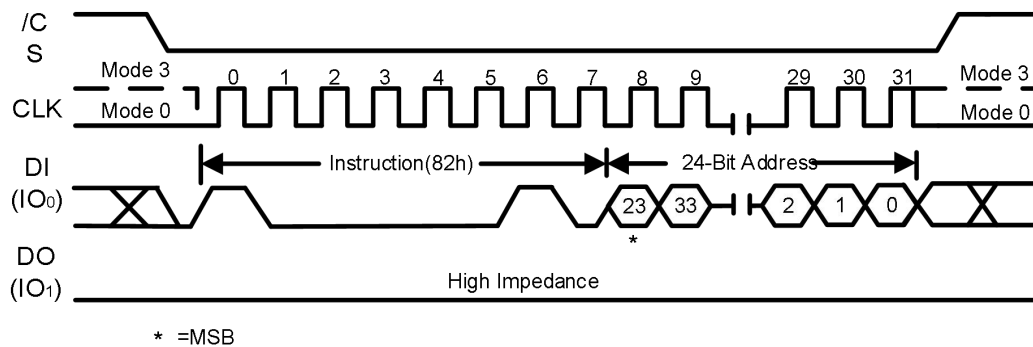

Figure15. Mini Sector Erase Sequence Diagram
The Mini Sector Erase command sequence: CS# goes low → sending Sector Erase command → 3-byte address on DI → CS# goes high. The command sequence is shown in Figure15. CS# must be driven high after the eighth bit of the last address byte has been latched in; otherwise the Mini Sector Erase (MSE) command is not executed. As soon as CS# is driven high, the self-timed Mini Sector Erase cycle (whose duration is  $t_{MSE}$ ) is initiated. While the Mini Sector Erase cycle is in progress, the Status Register may be read to check the value of the Write in Progress (BUSY) bit. The Write in Progress (BUSY) bit is 1 during the self-timed Mini Sector Erase cycle, and is 0 when it is completed. At some unspecified time before the cycle is completed, the Write Enable Latch (WEL) bit is reset. A Mini Sector Erase (MSE) command applied to a sector which is protected by the Block Protect (SEC, TB, BP2, BP1, and BP0) bit (see Table 1-6) is not executed.
The Sector Erase command sequence: CS# goes low → sending Sector Erase command → 3-byte address on DI → CS# goes high. The command sequence is shown in Figure15. CS# must be driven high after the eighth bit of the last address byte has been latched in; otherwise the Sector Erase (SE) command is not executed. As soon as CS# is driven high, the self-timed Sector Erase cycle (whose duration is Tse) is initiated. While the Sector Erase cycle is in progress, the Status Register may be read to check the value of the Write in Progress (BUSY) bit. The Write in Progress (BUSY) bit is 1 during the self-timed Sector Erase cycle, and is 0 when it is completed. At some unspecified time before the cycle is completed, the Write Enable Latch (WEL) bit is reset. A Sector Erase (SE) command applied to a sector which is protected by the Block Protect (SEC, TB, BP2, BP1, and BP0) bit (see Table 1-6) is not executed.